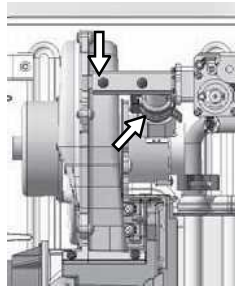

Figure 2
- 2) Remove the C-Clamp -16B. Then remove the screws with a Phillips screwdriver (Figure 2).
- 11) Tighten the screws with a Phillips screwdriver. Then attach the C-Clamp -16B at Venturi (Figure 2).